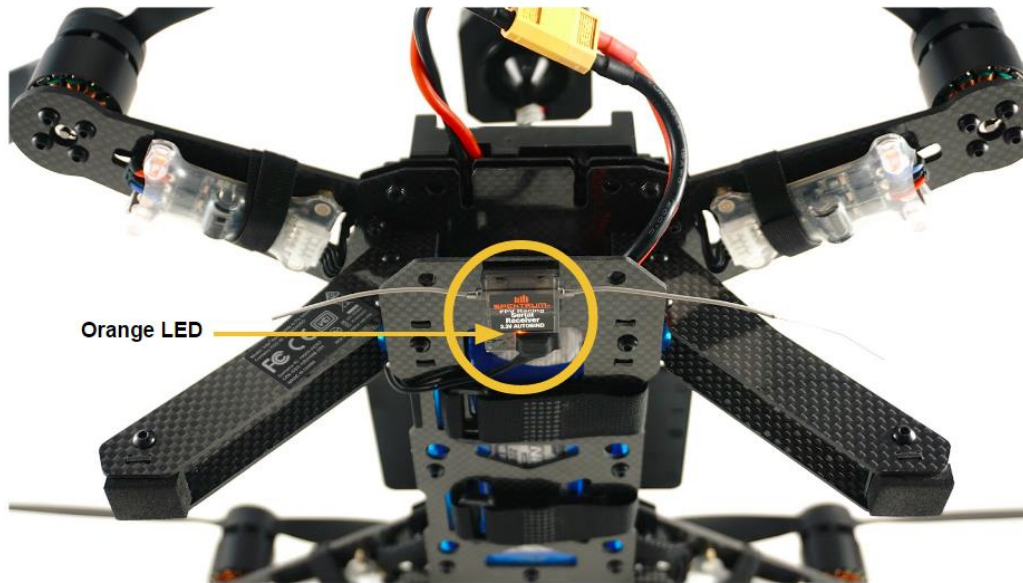

Figure 6. Receiver LED Indicates Connection Status with Transmitter
- i. Verify the orange LED on the remote control receiver located on the bottom side of the drone (**Figure 6**) is illuminated and steady orange. *If the LED is blinking or not ON, please check the troubleshooting tips.*